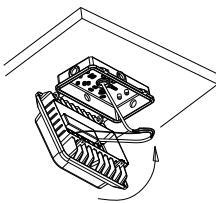

Figure 2-7
- 7.Turn the radiator up then cover the driver box, Figure 2-7